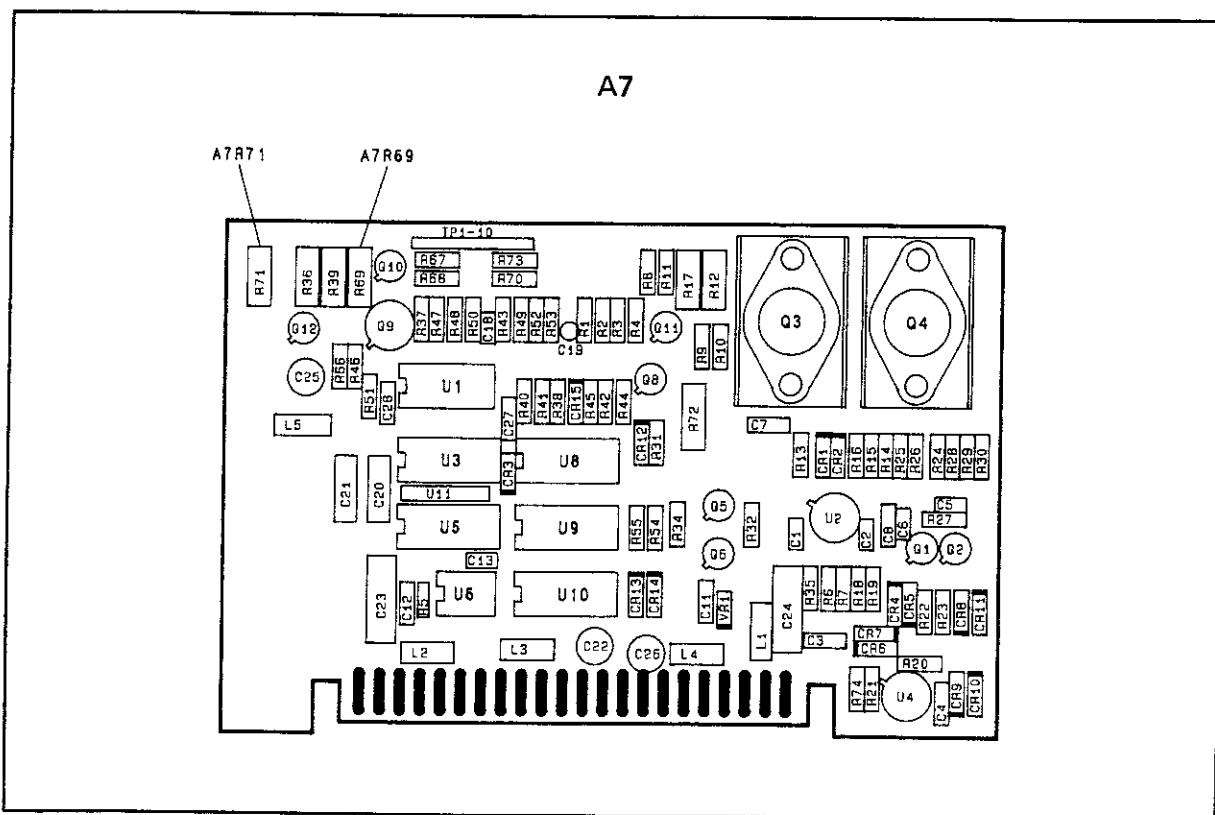

Figure 5-27. ON/OFF Ratio Adjustment Locations
3. Adjust A7R69 (Figure 5-27) for the minimum difference between 0 Vdc and the top of the modulation envelope over the first two divisions of the oscilloscope trace.